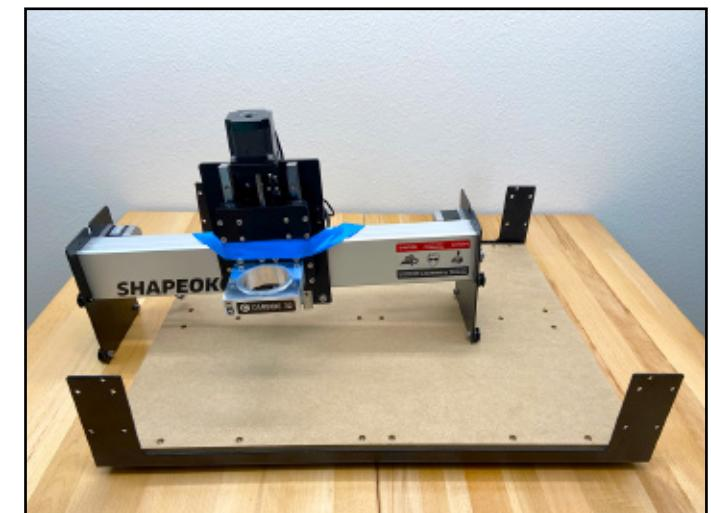

Figure 4-4
1. Place the X-rail/carriage assembly across the middle of the baseframe, shifted slightly to the left, with the Y1-carriage on the tabletop and the Y2-carriage on the baseplate. See Figure 4-4.